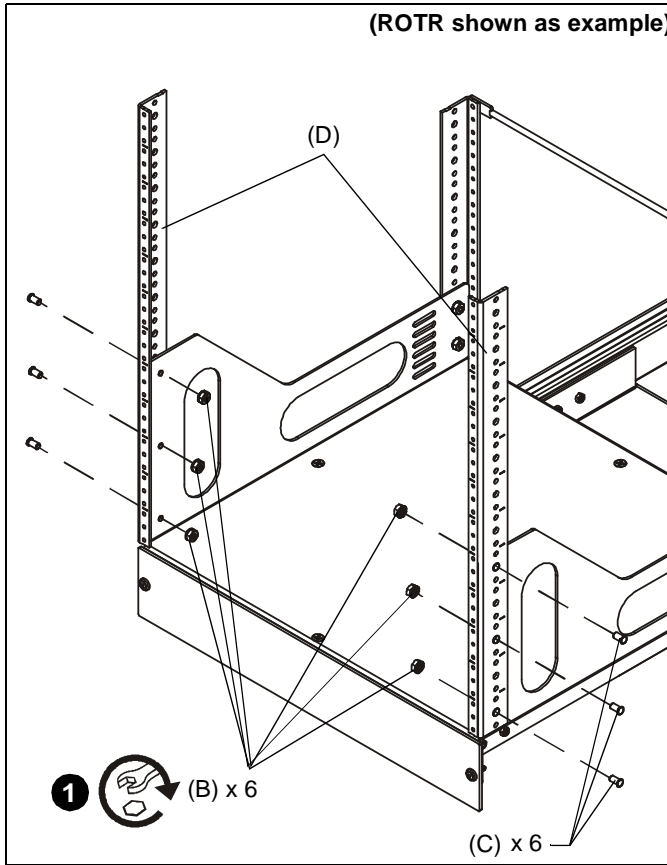

Figure 1
1. Attach rack rails (D) to POTR/ROTR using three 1/4-20 x 1/2" per studs (C) and three 1/4-20 lock nuts (B) for each rack rail. (See Figure 1)